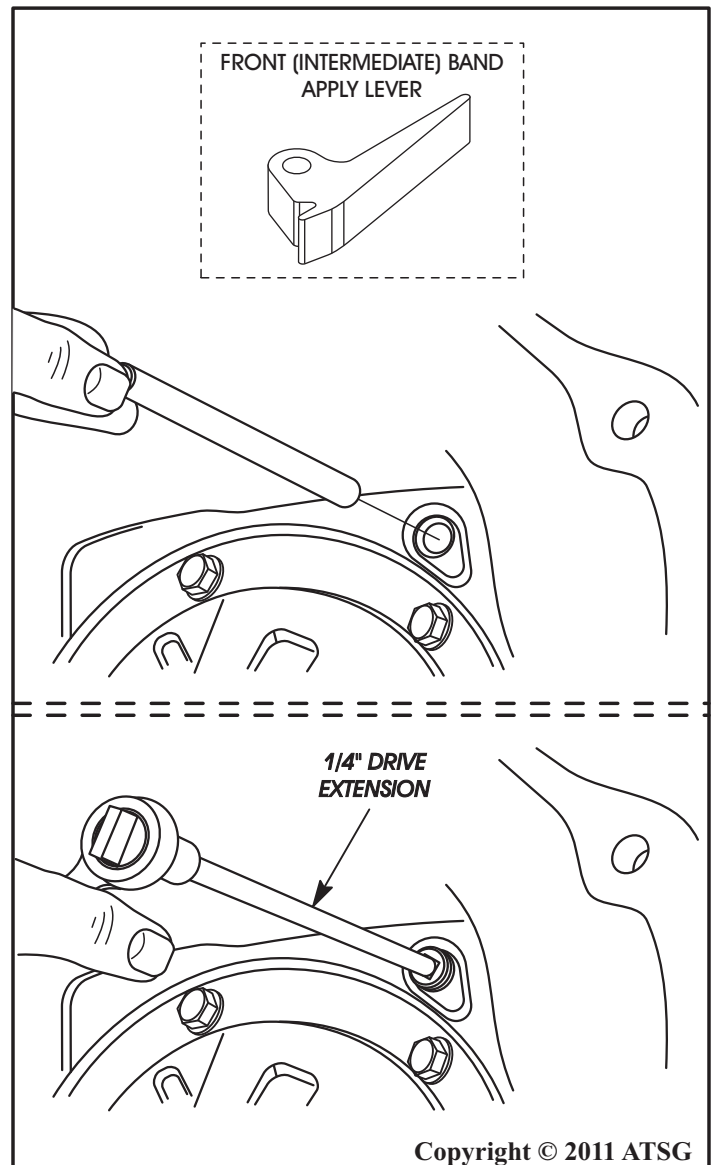

Figure 97
27. While holding the front band lever in position on the inside of case, install the front band lever pivot pin, as shown in Figure 97.
28. Install the front band lever pivot pin plug into the case, as shown in Figure 97.